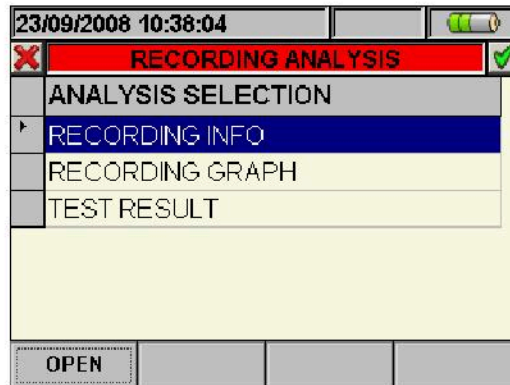

Fig. 134: Recording analysis (RegPV\*-type data)
2. Press the **ESC** key (or the smart icon  on the display) to exit the function and go back to the "Recording analysis" page (Fig. 134).
Press the **ESC** key (or the smart icon on the display) to exit the function and go back to the "Recording analysis" page (Fig. 134).
2. Press the **ESC** key (or the smart icon ) to exit the function and go back to the “Recording Analysis” page (Fig. 134).